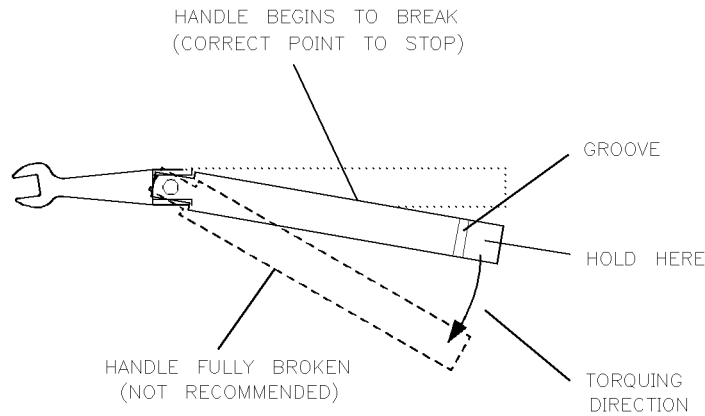

Figure 4-11. Using the Torque Wrench
3. Hold the torque wrench lightly, at the end of the handle beyond the groove. (see Figure 4-11).
5. Tighten the connection just to the torque wrench “break” point. The wrench handle gives way at its internal pivot point (see Figure 4-11). Do *not* tighten the connection further.